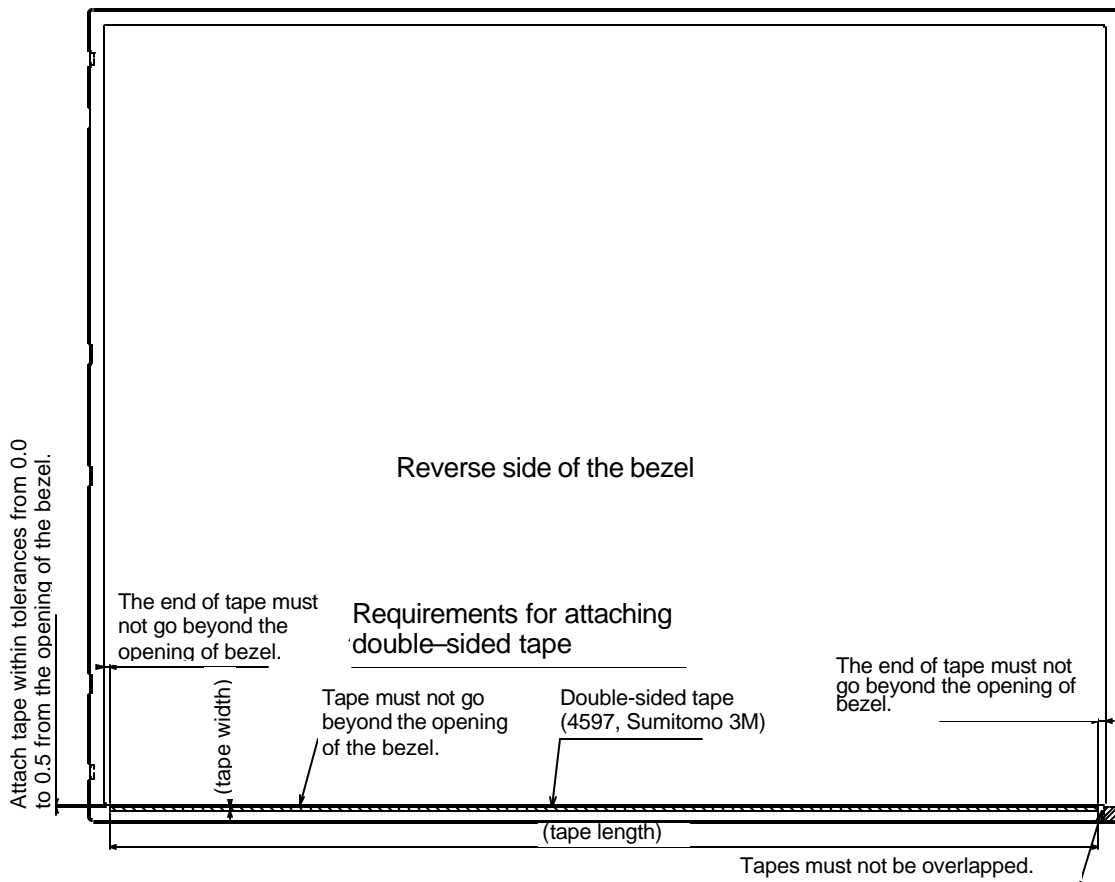

Figure 4-68 Replacing 14 Inch TMD fluorescent lamp (6)
1. Attach the double-sided tape to the reverse side of the bezel, as shown in Figure 4-68.